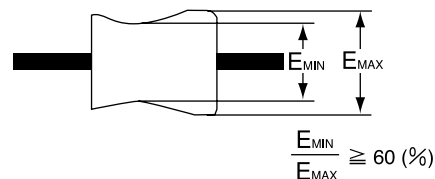

Fig.1
- (1) If the ratio of MIN to MAX of the envelope waveform is less than 60%, adjust the height of the guide roller again. (See Fig.1.)
- (2) Perform unloading and then loading again, select the PB mode and check that there are no significant changes in the envelope waveform.